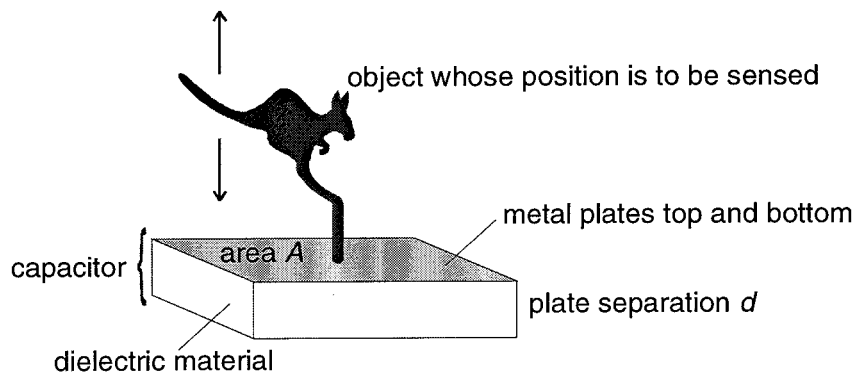

Figure 1.
Both Questions 1 and 2 are based on Figure 1.
1. What is the physical effect involved in the designing of the sensor in Figure 1?
2. Is the sensor in Figure 1 a self-generator, modulator or modifier, why?